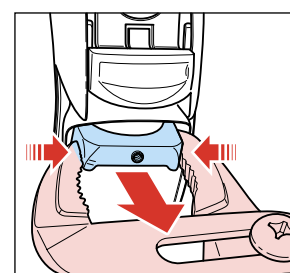

figure 1
- Remove bracket large (17). (see figure 1)
- Detach the motor springs (14) from the gearwheel unit with a small screwdriver.